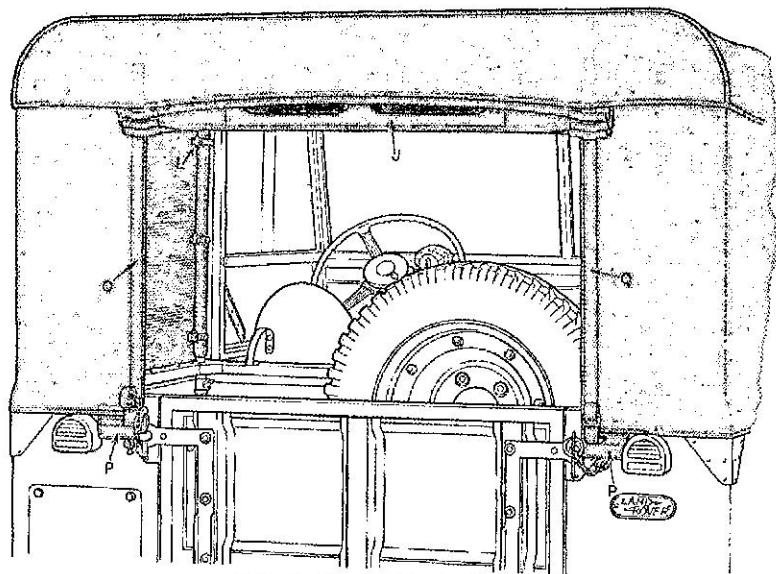

Fig. 43. Rear curtain installation.
Draw the rear valances round the upright members of the rear hood-stick; pass the straps (N) at the top corners of the valances over the top member, down through the staples and buckle them up. Now push the leather tongues (P) at the bottom of the valances over the staples on the body on either side of the tail-board; pass the long webbing straps (Q) (sewn to the top rear of the hood) down through the loops on the sides of the rear curtain, thread them through the staples to retain the leather tongues and buckle them up. (Fig. 43).